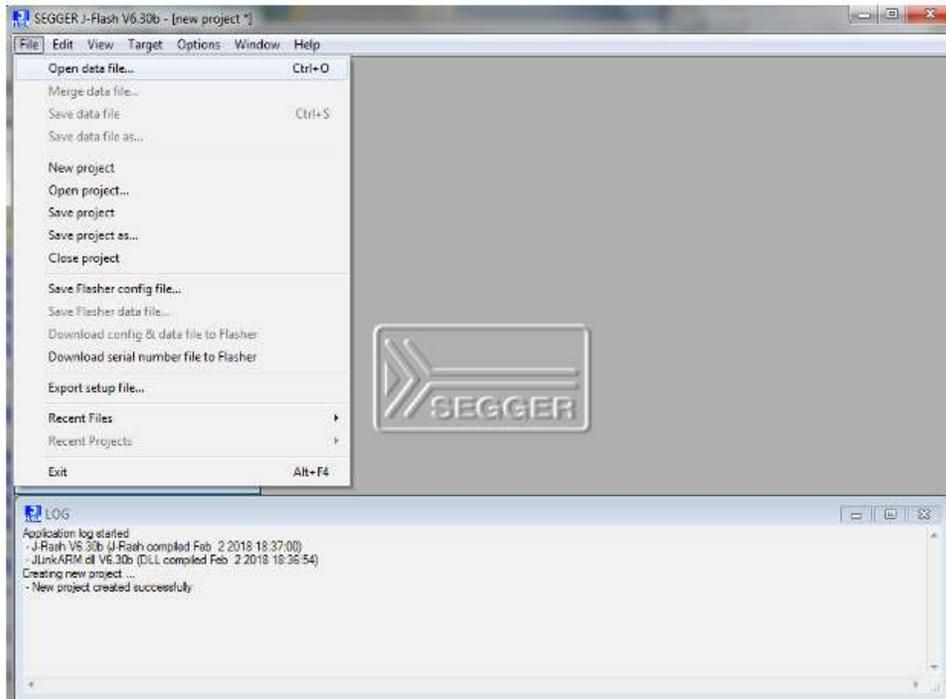

Figure 7: Open data file [LoadFile\_1]
8. Click ?File? (on the top ribbon) and select ?Open data file? on the pop-up (Figure 7, STMA-69048);